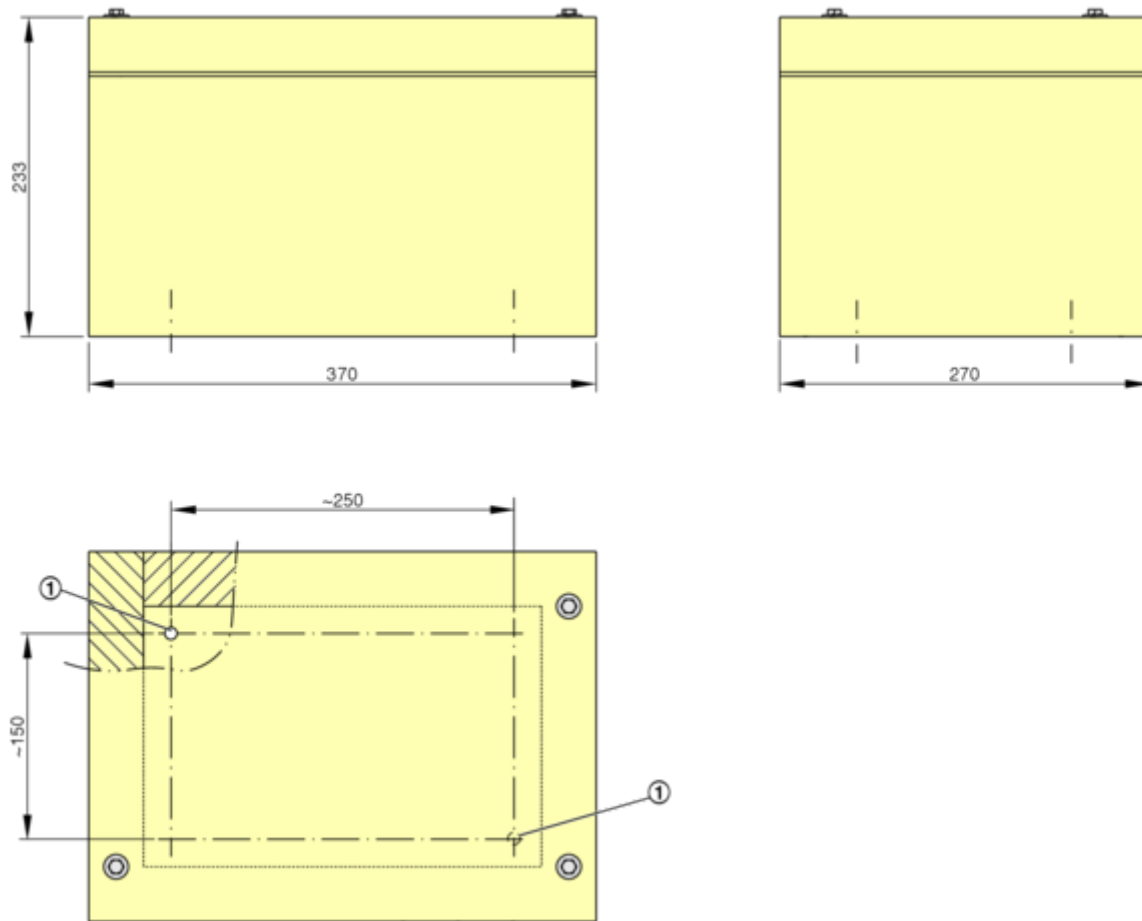

Fig. 4: External encasing for control module, always required for dampers with $H=230$ mm, optional for other sizes
Drill a hole (Fig. 4 /1) for fastening on site to fit the screw exactly.
* B grid size possible in 10 mm steps, 1) for control module external encasing, see Fig. 4